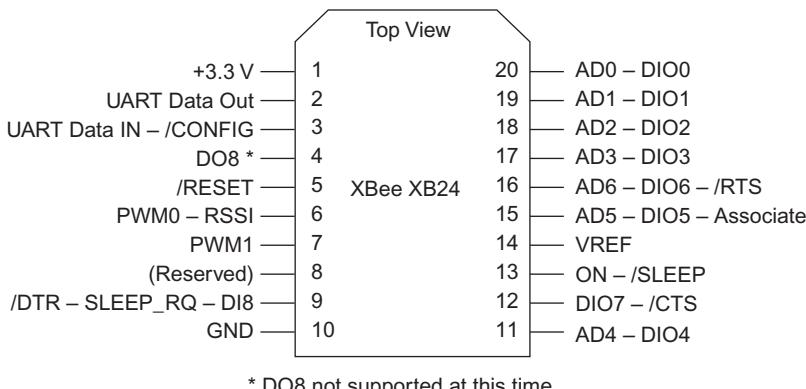

FIGURE 3.3 Pin-and-signal designations for an XBee XB24 module.
Step 2. The diagram in Figure 3.3 shows the pin numbers and signal labels for XBee and XBeePRO modules based on a top-down view. Some pins share functions. The ADx–DIOx pins, for example, can operate as digital inputs or outputs, or as analog inputs for an internal analog-to-digital converter (ADC).